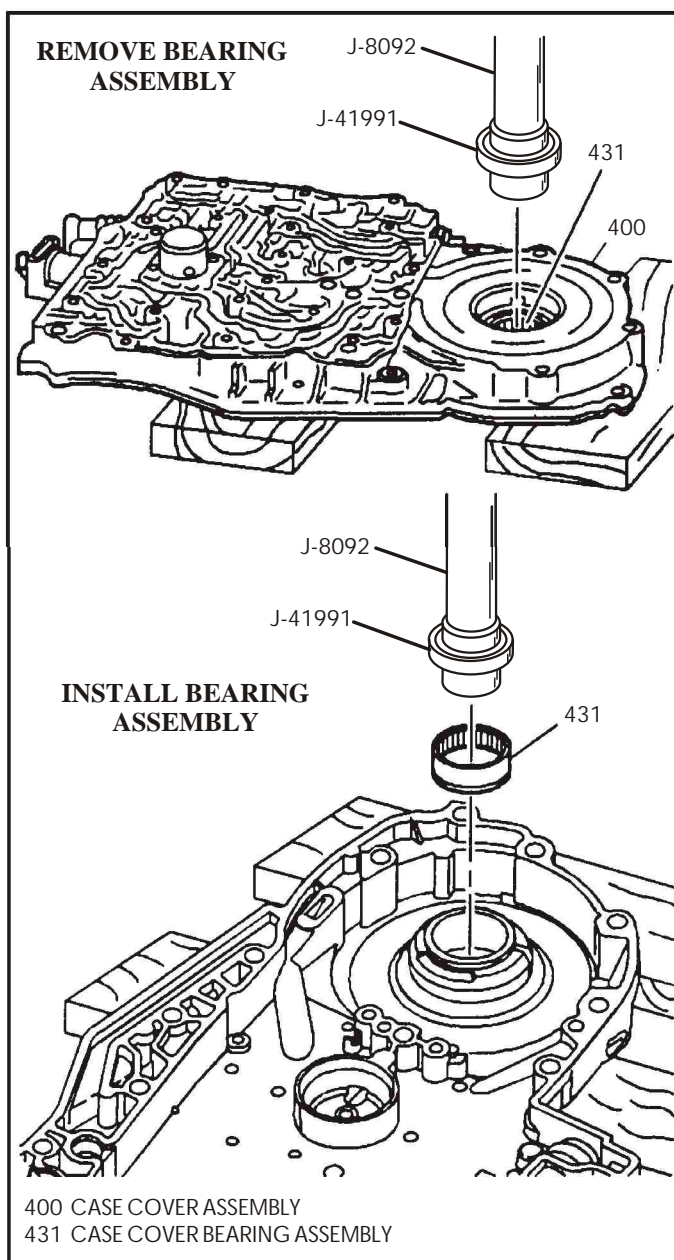

Figure 134
2. If replacement of case cover bearing becomes necessary, refer to Figures 134 for removal and installation of the bearing.